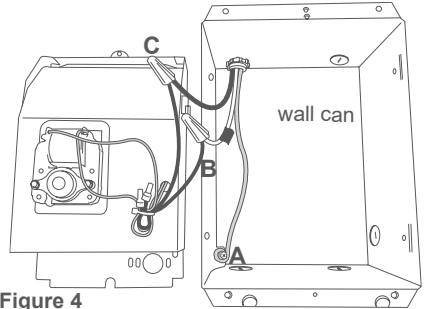

Figure 4
A. Connect supply ground wire to grounding screw in wall can (See Figure 4 or 5).
For 240 or 208 volts, it doesn't matter which heater wire. Both supply wires (black and white) are hot. Wrap supply (white) wire with black tape to identify it as hot (Figure 4).
C. Connect the remaining supply wire to the remaining heater wire with a wire connector (not included) (See Figure 4 or 5).